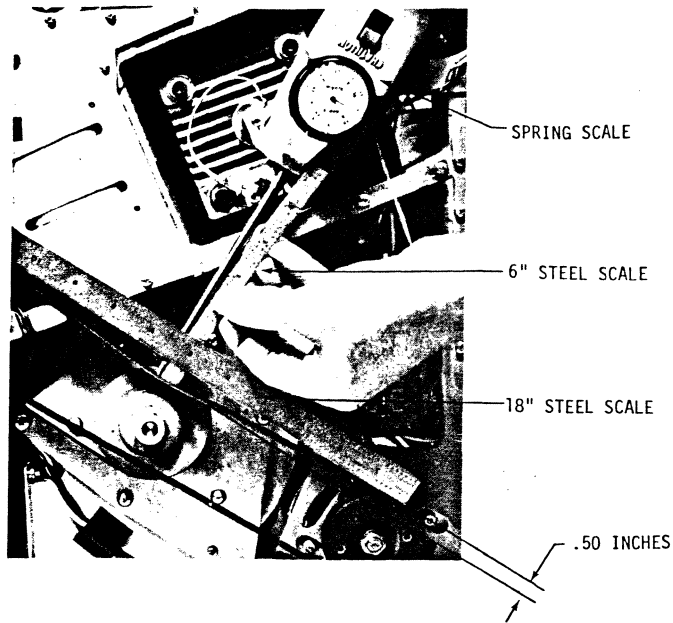

Figure 5-32
- s) Re-install positioner shipping arm, shipping bracket and ground strap previously removed. Set positioner shipping arm .040 from shipping bracket using .040 plastic shim material as shown in Fig. 5-32.
- c) Check belt tension by deflecting belt to .50 inches halfway between motor and spindle pulleys as shown in Fig. 5-32. With spring scale measure force at belt deflection noted above. This force should be 4 ±1/2 lbs.